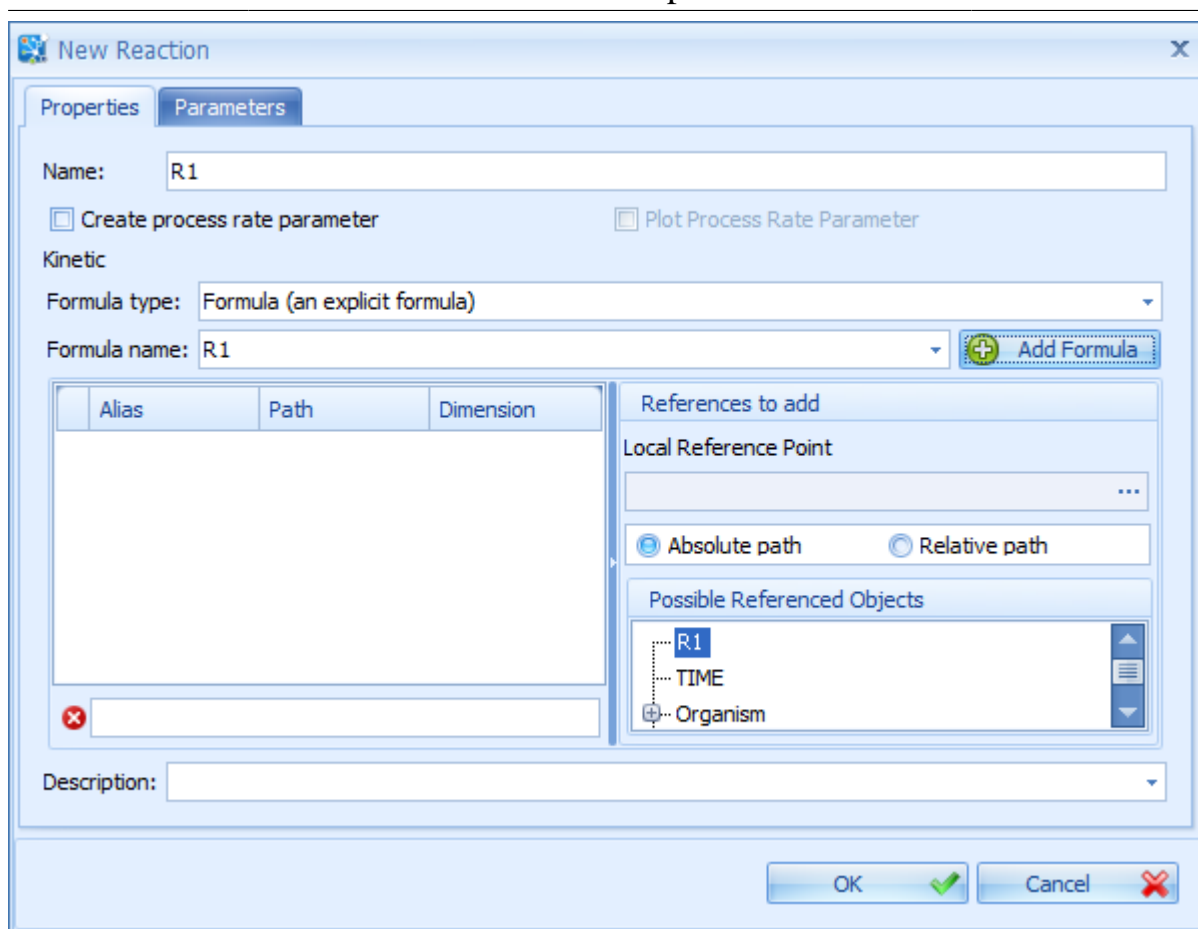

Figure 25.9. New Reaction window
1. Click the ribbon button  **New**, or right-click into the diagram area at the position where you want to have the new reaction, then choose **Create Reaction** from the context menu that appears. A new window titled "New Reaction" will open (see Figure 25.9) with the "Properties" tab selected.